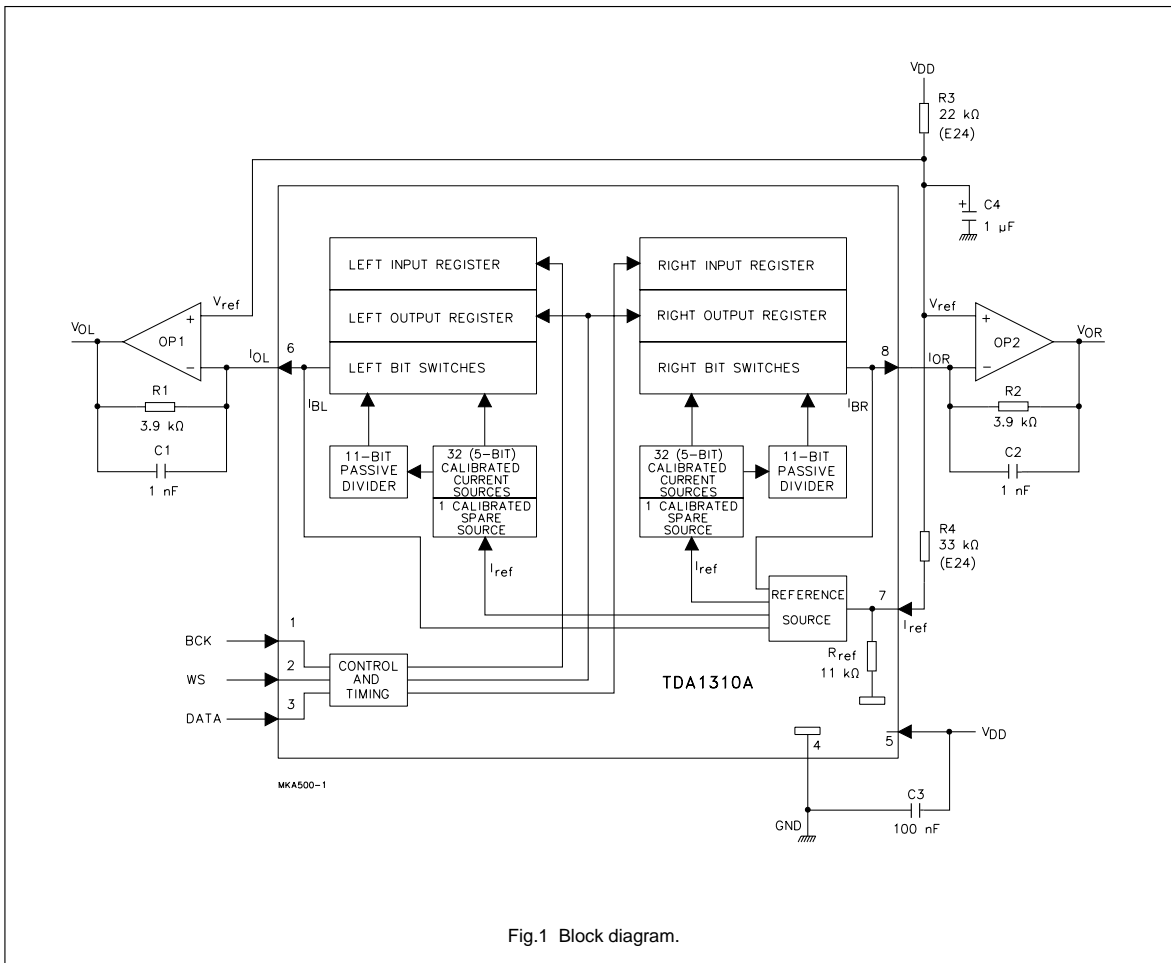

Fig.1 Block diagram.
The 32 current sources and the spare current source of the TDA1310A are continuously calibrated (see Fig.1). The spare current source is included to allow continuous converter operation. The output of one calibrated source is connected to an 11-bit binary current divider consisting of 2048 transistors. A symmetrical offset decoding principle is incorporated and arranges the bit switching in such a way that the zero-crossing is performed only by switching the LSB currents.
With a HIGH level on the word select input (WS), data is placed in the left input register, with a LOW level on the WS input, data is placed in the right input register (see Fig.1). The data in the input registers are simultaneously latched in the output registers which control the bit switches.
An internal bias current I_{bias} is added to the full scale output current I_{FS} in order to achieve the maximum dynamic range at the outputs OP1 and OP2 in Fig.1.
The reference voltage V_{ref} in Fig.1 is $\frac{2}{3}V_{DD}$. In this way maximum dynamic range is achieved over the entire power supply voltage range.
The tolerance of the reference input current in Fig.1 depends on the tolerance of the resistors R3, R4 and R_{ref} ⁽³⁾.
$V_{DD} = 5\text{ V}$; $T_{amb} = 25\text{ }^{\circ}\text{C}$; measured in Fig.1; unless otherwise specified.